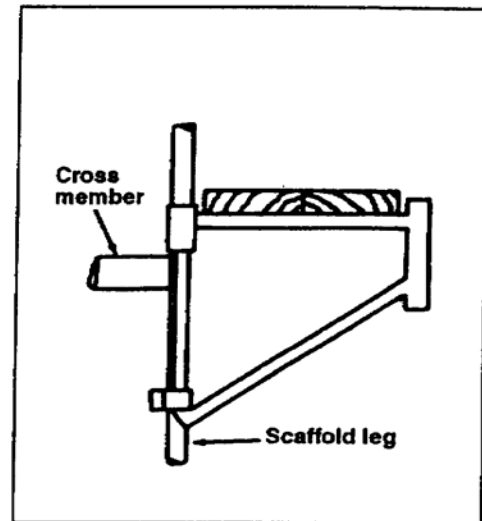

Figure 4-18. Side bracket
(2) Side bracket. A side bracket (Figure 4-18) is damped on the scaffold uprights to provide platforms at various height levels.